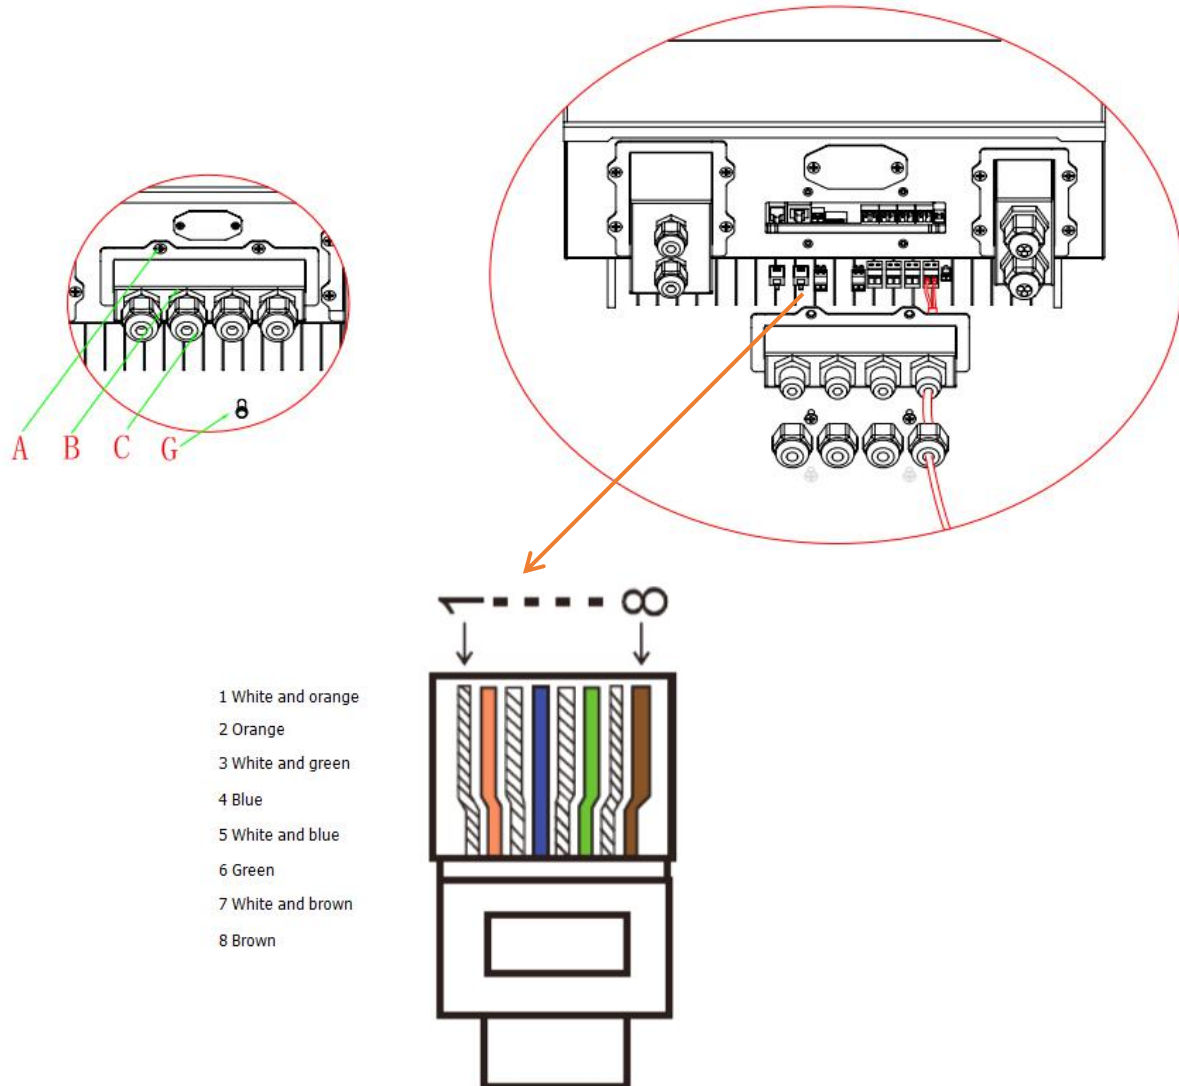

Fig. 7 Inverter logic interface connection
- Step 1:** Loosen 4 screws (A) using a screwdriver (fig. 7);
- Step 2:** Remove the waterproof cover (B), Loosen the cable gland (C), and then remove the stopper (G);